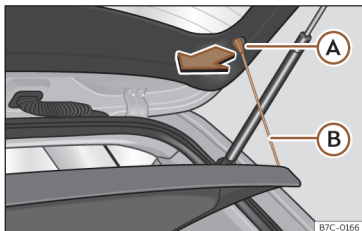

Fig. 182 In the boot: removing and installing the shelf.
- Detach the cord loops >>> **Fig. 182** (A) from their hooks (A).
- Attach the securing straps >>> **Fig. 182** (B) onto the rear lid.